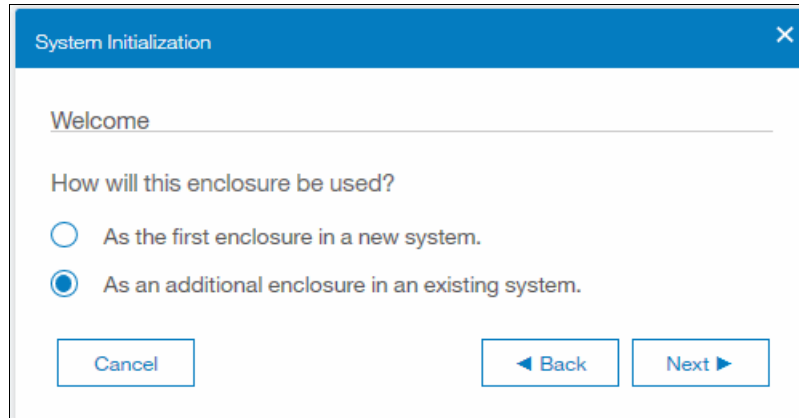

Figure 6-58 System initialization enclosure usage pane
7. The System Initialization Welcome pane is displayed (Figure 6-58).